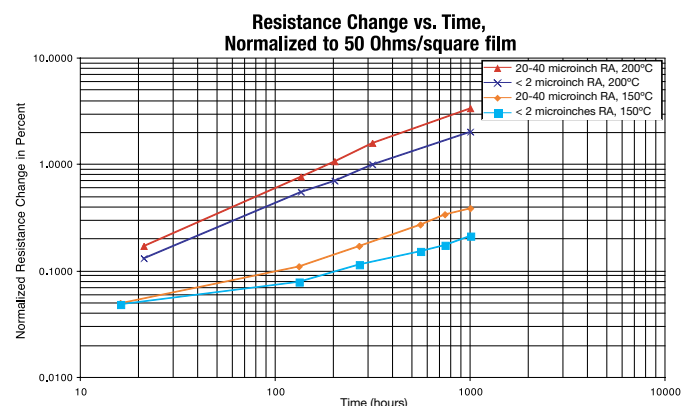

Figure 5: Normalized percent resistance change of Ta₂N oven-aged resistors
Figure 5 shows the average measured change in resistance of four groups of ten each Ta₂N thin-film resistors placed in an oven – no applied power to
The top curve shows the raw data; average resistance change was about 4.9%. The lower curve shows the data normalized to a 50-ohms/square resistivity, i.e., the resistance change was scaled by the ratio of actual film resistivity, 72 ohms/square, to 50 ohms/square using equation (1). Since the substrate used had an average surface roughness of 2040 microinches, the lower curve should be comparable to the 200°C oven-aged result for this substrate shown in **Figure 5**.